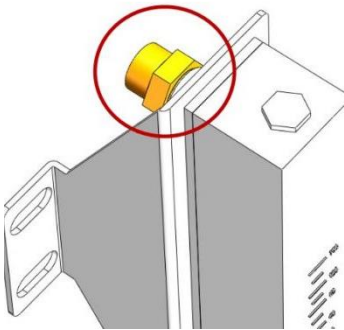

Figure. 4
4. Screw out the yellow connector in the picture, as shown in Figure.4